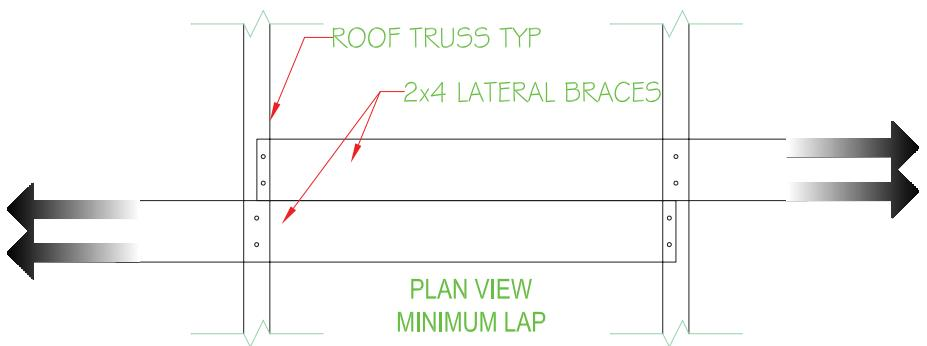

Figure 2. Overlaps of 24" or 48" for 2' and 4' on-center spacing respectively.
- 2.) Overlaps of 24" or 48" for 2' and 4' on-center spacing respectively: **4 end nails \* 53#/nail = 212#** (See Figure 2.)